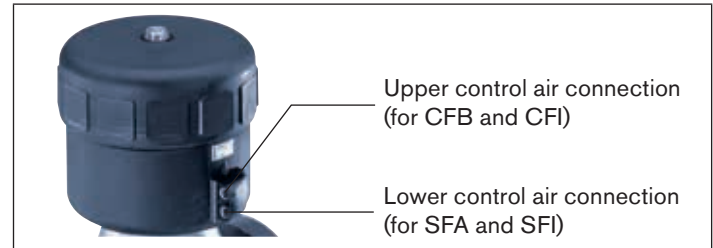

Fig. 17: Control air connection
- Pressurize lower control air connection with compressed air (value as indicated on the type label) (see “Fig. 17”). This is required to detach the diaphragm without damage from the body.
- Pressurize lower control air connection with compressed air (value as indicated on the type label) (see “Fig. 17”).
- Pressurize upper control air connection with compressed air (value as indicated on the type label) (see “Fig. 17”).